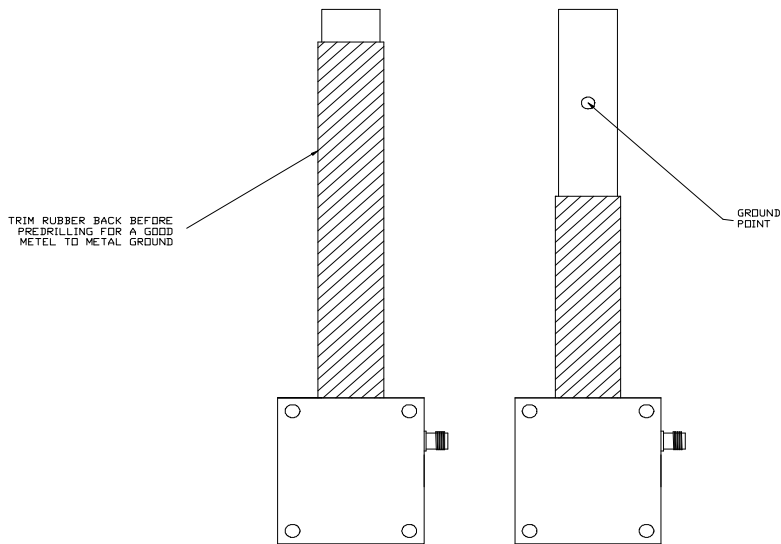

Figure 4- Grounding Strap Preparation
1. Trim back the rubber insulation to expose the pre-drilled holes (Refer to Figure 4 – Grounding Strap Preparation).